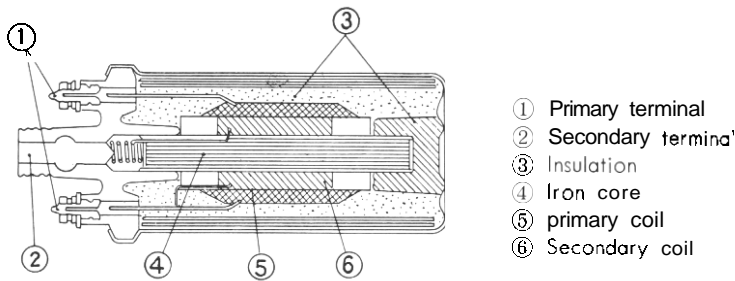

Fig. 1-5. Function diagram of ignition coil of Modal CB72, 77
The principle of ignition coil is similar to that of induction coil. As shown in Fig. 1-5, rotating cam axle and crank with constant periodical relation. there generates high voltage on the secondary coil as follows.
- h. Then returning cam angle to original state to actuate the function as stated (a) to follow the same process repeatedly (Fig. 1-5~1-7).
- ⑧
- ① Contact breaker
- ② Point cam
- ③ Condenser
- ④ Battery
- ⑤ Insulation
- ⑥ Ignition coil
- ⑦ Primary coil
- ⑧ Secondary coil
- ⑨ Spark plug